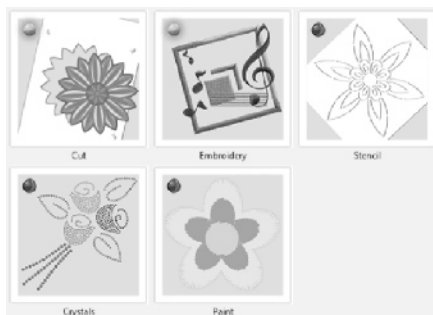

Fig. 17
2. Place a bullet in the *Cut* and *Embroidery* technique options. Remove the bullets from all other techniques. Click <Next> (See Fig. 17).